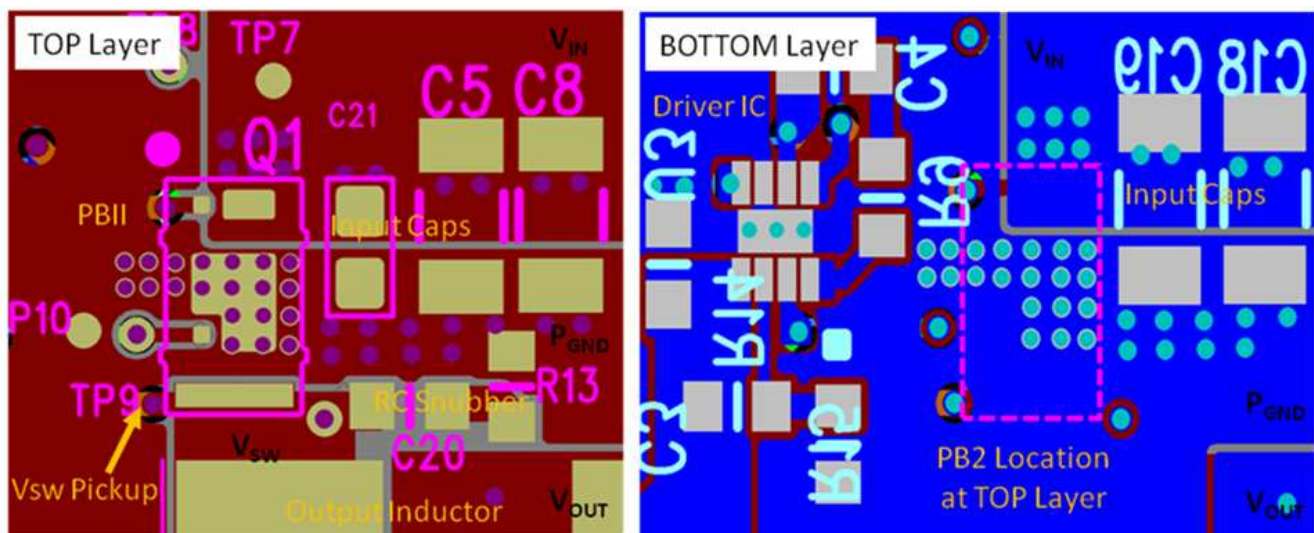

Figure 29. Recommended PCB Layout (Top Down View)
- The switching node of the output inductor should be placed relatively close to the Power Block II CSD87588N VSW pins. Minimizing the VSW node length between these two components will reduce the PCB conduction losses and actually reduce the switching noise level. see Figure 29 ⁽¹⁾
(1) Keong W. Kam, David Pommerenke, "EMI Analysis Methods for Synchronous Buck Converter EMI Root Cause Analysis", University of Missouri – Rolla
- Use the smallest drill size allowed in your design. The example in Figure 29 uses vias with a 10 mil drill hole and a 16 mil capture pad.